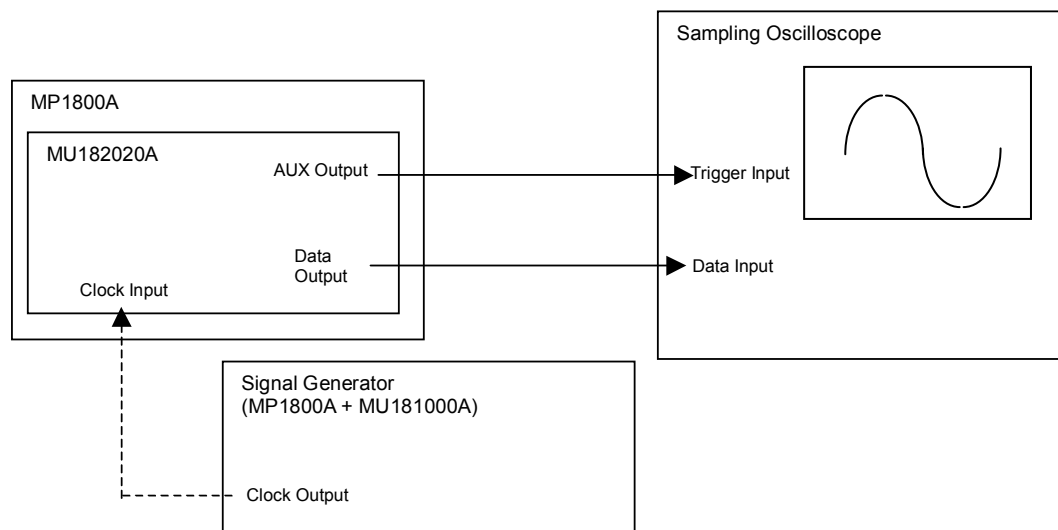

Fig. 6.3.2-1 Connection diagram for waveform test
1. Connect the cables among the measuring instruments, referring to Fig. 6.3.2-1.